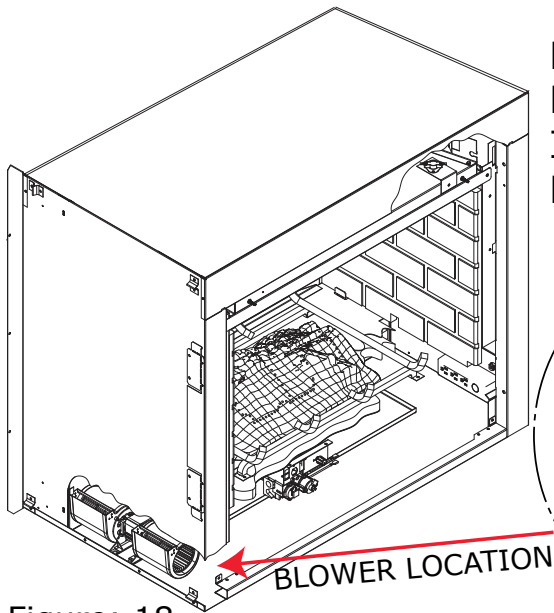

Figure: 18
- Multi-Sided fireplace see (Figures: 18 & 19).
(Figures: 18 & 19) show where the Blower is positioned against one of the side walls. Look for Gas Pipe position to make sure there is at least 13 Inches of space on either side of the Gas Pipe for Blower to fit. The blower needs to be positioned under the Vertical Vent space going up the Side Wall.